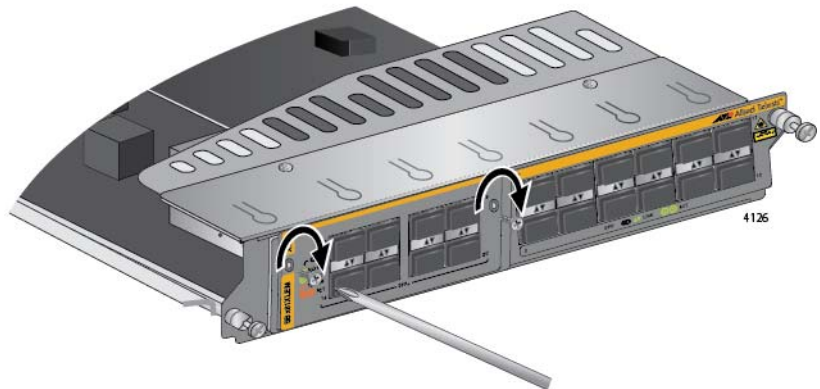

Figure 81. Securing the Expansion Module
10. With a Phillips-head screwdriver, install the two screws from step 4 to secure the expansion module to the line card. Refer to Figure 81.